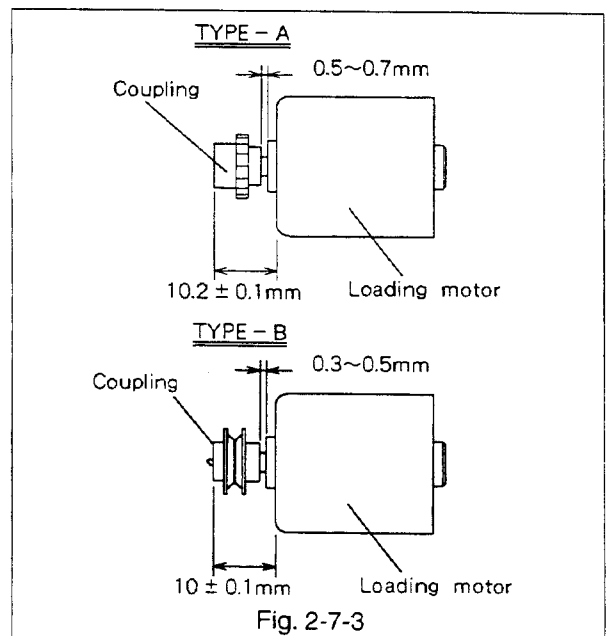

Fig. 2-7-3
- A. Fasten the coupling to a new loading motor. (Refer to Fig. 2-7-3.)